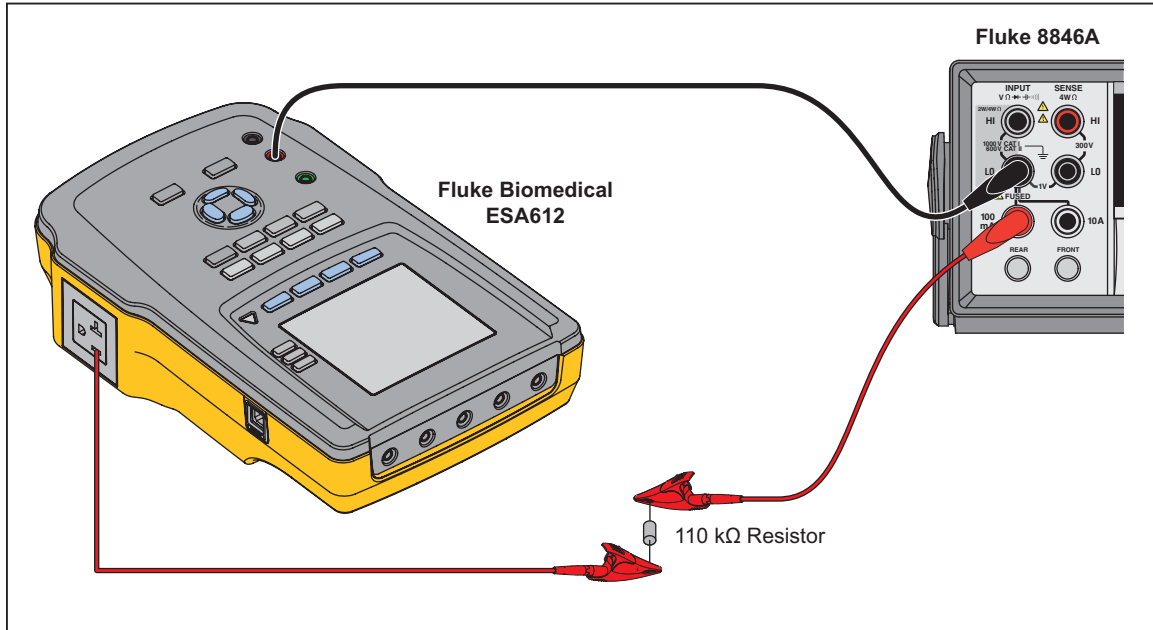

Figure 3-20. Alternate Equipment Leakage: Red to Hot Connections
1. Move the lead from the RA applied part to the EO hot; the other end should still be connected to the 110-k Ω resistor. The red jack should be connected to the DMM Input (-). See Figure 3-20.